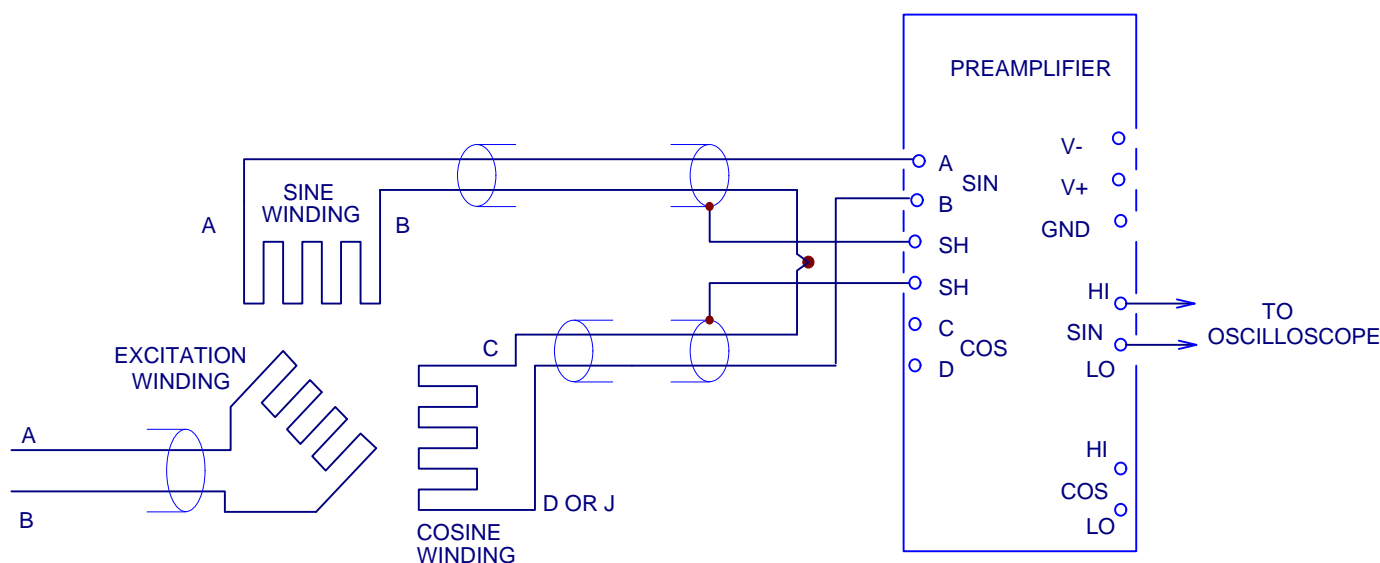

FIGURE 2. CONNECTION FOR LOCATING A PRECISE 1/8 CYCLE POINT
In this method, the position of an exact 1/8 cycle point is determined by temporarily connecting the sine and cosine windings in series, as shown in Figure 2, and moving the transducer to null their combined outputs. Normal wiring is then restored and the balance potentiometer on the preamplifier is adjusted if necessary until the lights on the Converter Board indicate an exact 1/8 cycle point.
c. Disconnect the wires connected to the slider or stator from the preamplifier SIN LO and COS HI and LO terminals ("B", "C", and "D-J"). Connect the two transducer windings in series to the SINE input terminals as shown in Figure 2.